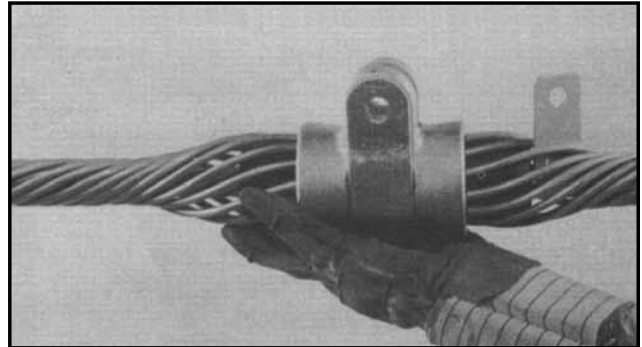

Figure 9
- 3.06** Place the FIBERLIGN Suspension Housing on both sides of the neoprene insert and rod assembly with the bolt hole facing up. Slide the FIBERLIGN Suspension Strap into position around the housing. Tap firmly into place with the heel of the hand (Figure 9).